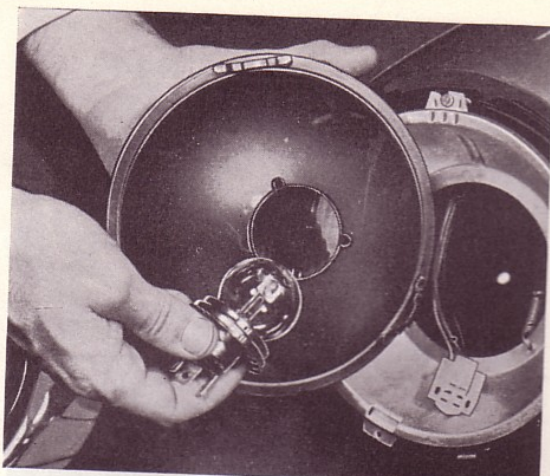

Fig. 85. Fitting the bulb
3. Fit the new bulb, see Fig. 85. Do not touch the bulb glass with your fingers.